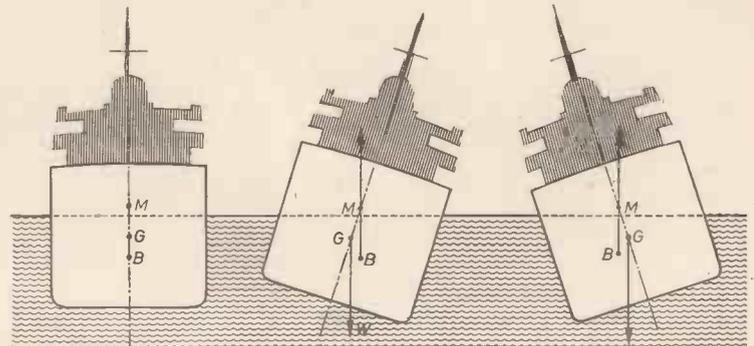

Fig. 1.—(a) Ship in stable condition. (b) Listing to starboard. (c) Listing to port.
Let us consider what happens when a ship rolls. Fig. 1(a) shows diagrammatically a section through a ship's hull when it is in a stable condition in still water. The weight (W) of the ship acts vertically downwards through the centre of gravity (G) and is resisted by the upthrust due to the water displaced by the ship which is equal to the weight of the ship and acts vertically upwards through the centre of buoyancy (B). Fig. 1(b) shows the same ship listed to starboard. (M) is a point on the vertical line through the centre of gravity in the initial position known as the metacentre or "measuring centre." In geometrical terms it is defined as the intersection of a vertical line through the centre of buoyancy in the initial position with a vertical line through the centre of buoyancy in a slightly inclined position. The position of (M) is very important when designing a ship as it is the point above which the centre of gravity must not be raised if the ship is to remain in stable equilibrium.
In Fig. 1(b) the ship is no longer in equilibrium and the forces due to the weight of the ship acting downwards at (G) and the buoyancy acting upwards at (B) produce an anti-clockwise turning moment tending to return the ship to the original position of 1(a). Similarly, Fig. 1(c) shows the effect of listing the ship to port. It follows that, in order to make the ship list either one way or the other, a turning moment must be applied. This is in effect just what the action of a wave does to a ship.